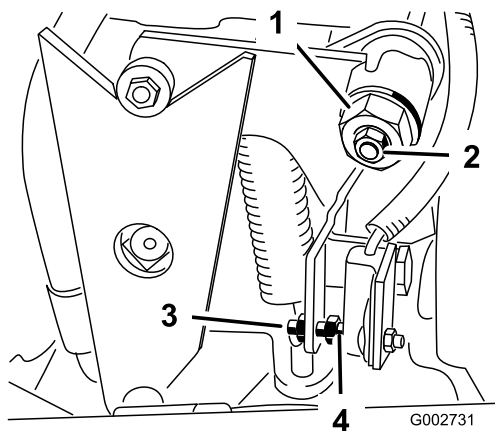

Figure 33
4. Loosen the locknut on the traction adjustment cam (Figure 33).
5. Start the engine and rotate the cam hex (Figure 33) in both directions to determine the mid position of the neutral span.
3. Adjust the screw until the air gap is .060 inches \pm .030 (Figure 33).